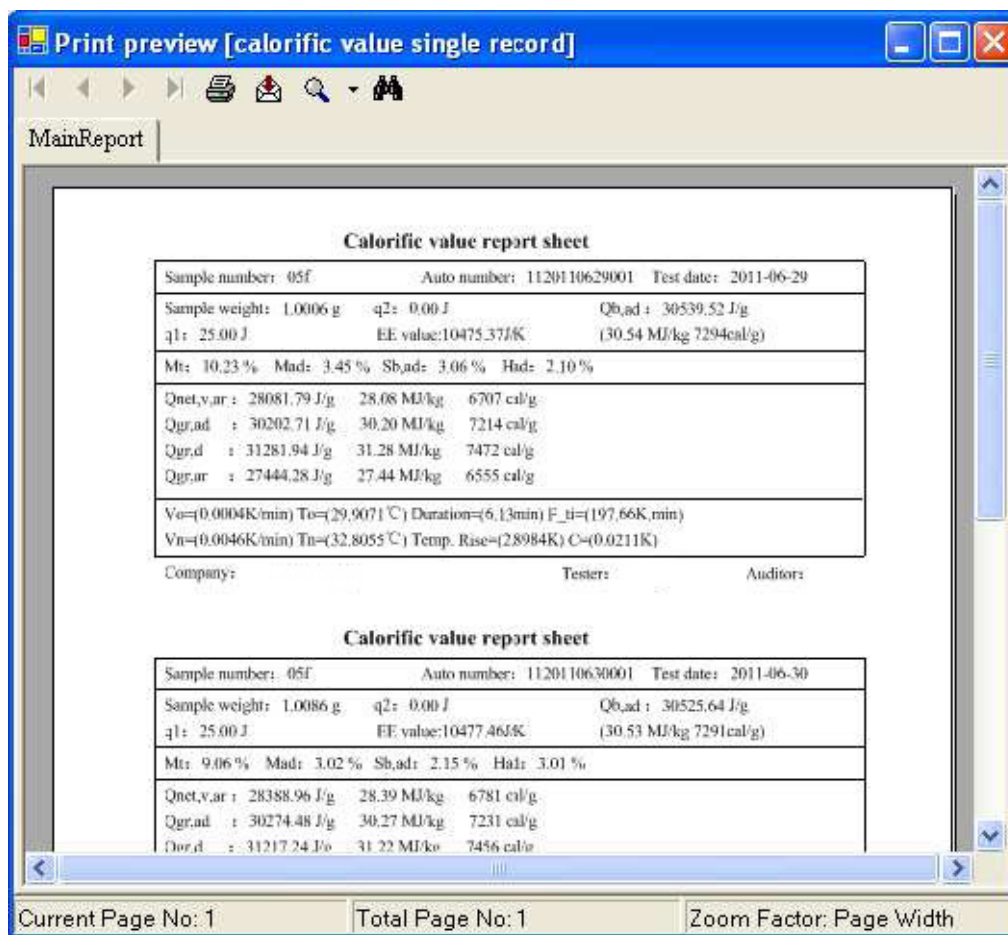

Fig.5-10
- Print preview: Preview the selected records during the multi-records browsing (shown as Fig.5-10).